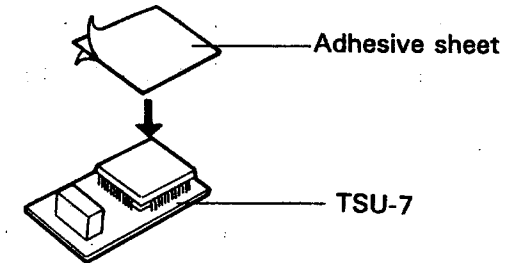

Fig. 1
1. Attach the adhesive sheet supplied with the TSU-7 to the front (connector side) of the unit. (Fig.1)